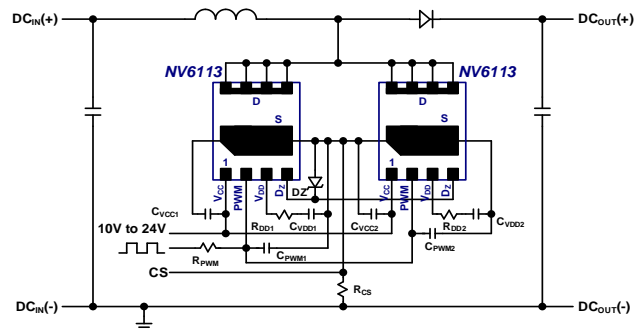

Fig. 25. Boost schematic using two parallel ICs
For some applications it is desirable to parallel ICs in order to reduce conduction losses and temperatures. Two GaNFast power ICs can be connected in parallel in a PFC boost application working in boundary-conduction mode (BCM) only. This configuration is shown in Fig. 25. The paired pins that are connected together include the drain pins (D), the source pins (S), the  $V_{CC}$  pins, the PWM pins, and the  $D_z$ . A single  $D_z$  diode can be shared by both ICs. The  $V_{DD}$  pins are not connected together and require separate  $V_{DD}$  supply capacitors ( $C_{VDD1}$ ,  $C_{VDD2}$ ) and separate turn-on current set resistors ( $R_{DD1}$ ,  $R_{DD2}$ ). Each IC should have its own local  $V_{CC}$  supply filter capacitor ( $C_{VCC1}$ ,  $C_{VCC2}$ ). The PWM pins can have a single filter resistor ( $R_{PWM}$ ) but separate filter capacitors ( $C_{PWM1}$ ,  $C_{PWM2}$ ) should be placed at the PWM pin of each IC. When designing the PCB layout for the two paralleled ICs, the drain and source connections should be made as symmetrical as possible to avoid any parasitic inductance or capacitance mismatch. A proper PCB layout example for paralleling is shown in Section 10.